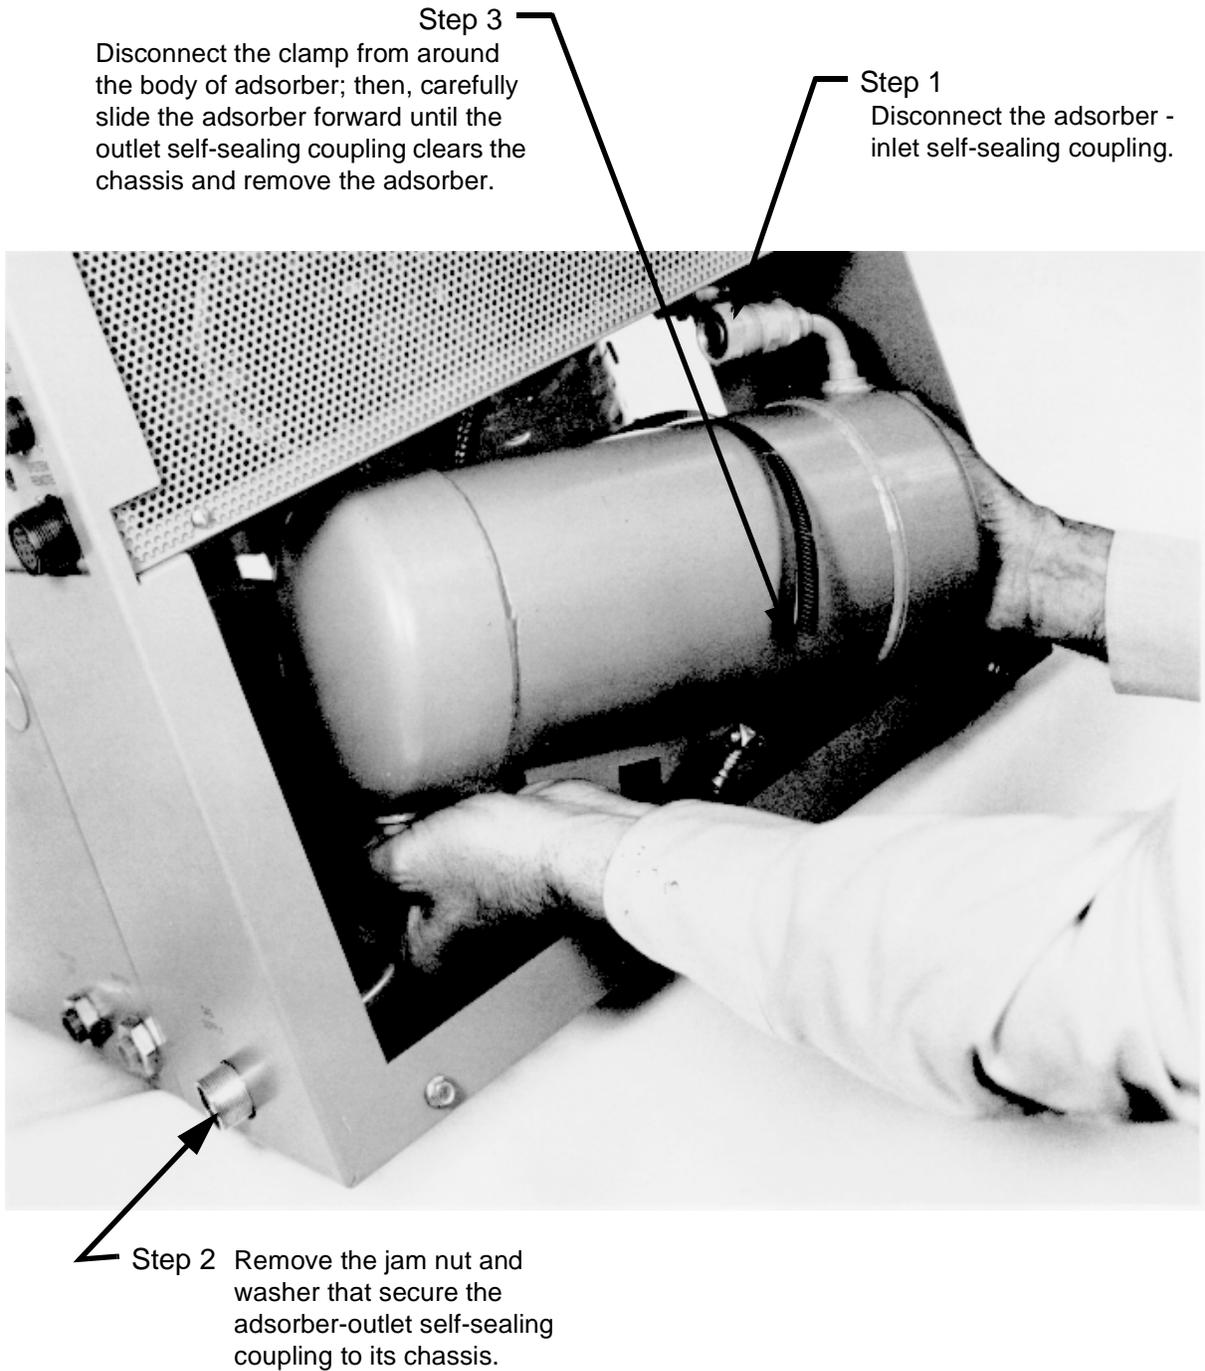
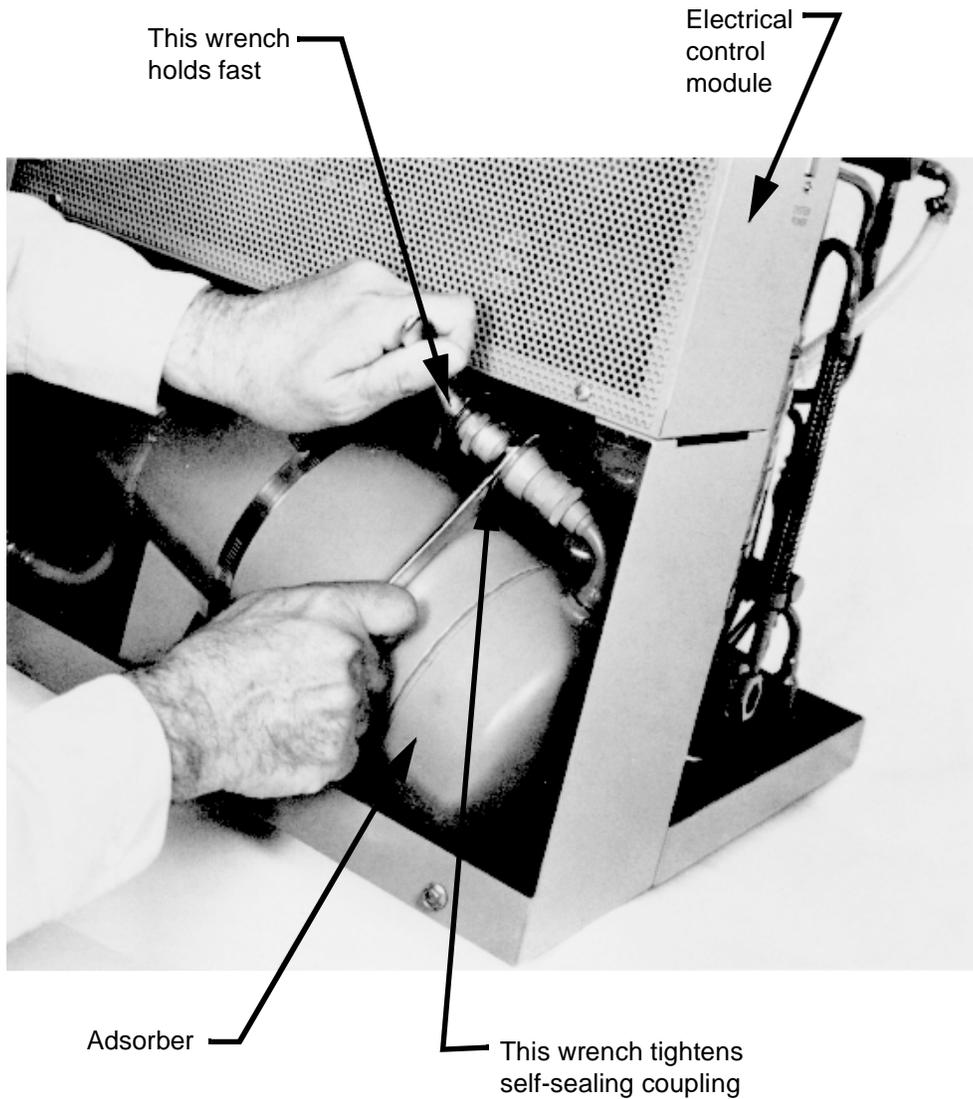

Figure 2: Removing the Adsorber from the Compressor
Figure 3: Procedure for Connecting a Self-Sealing Coupling
- b. Install the replacement adsorber by performing the steps in Figure 2 in the reverse order. Use the hardware saved in step 5 above. Reconnect the self-sealing couplings per Figure 3.